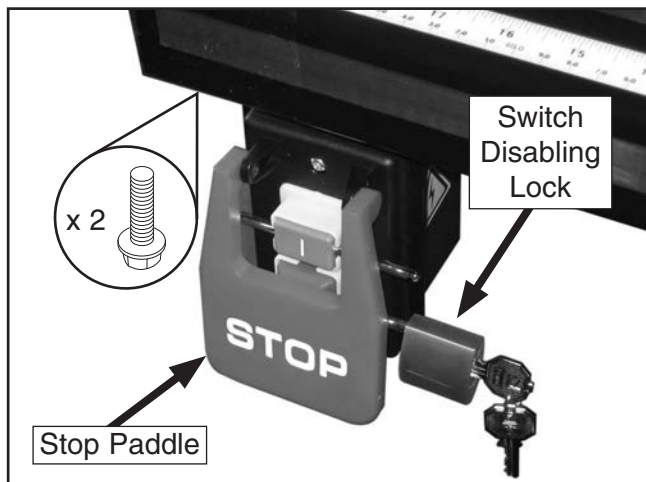

Figure 38. Switch installed.
1. Fasten the switch to the left end of the front rail with (2) M8-1.25 x 12 flange bolts, then insert the switch disabling lock, as shown in **Figure 38**.